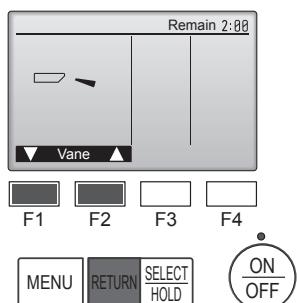

Fig. 8-4
- Press the [SELECT/HOLD] button to display the Vane operation screen, and then press the [F1] and [F2] buttons to check the auto vane. (Fig. 8-4)